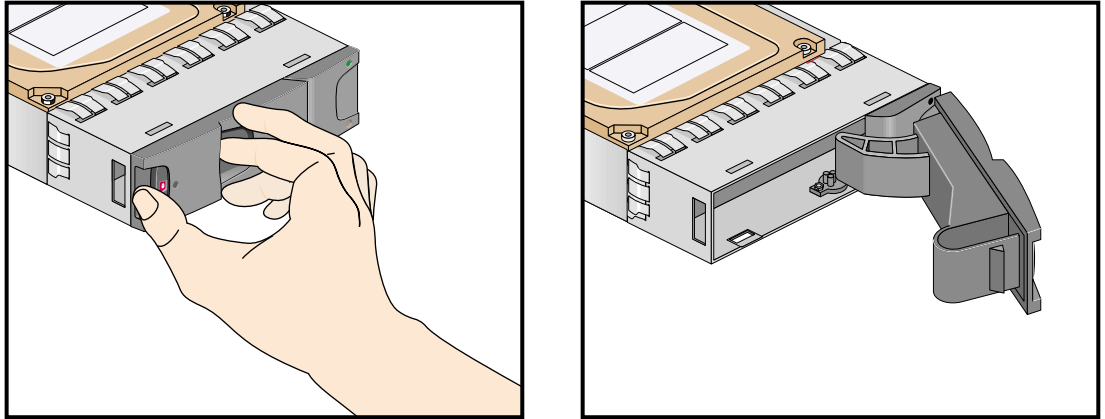

Figure 12-14 Releasing the Carrier Handle
5. Release the handle of the replacement carrier by pressing the latch in the handle towards the right, as shown in Figure 12-14. Insert the carrier into the enclosure.